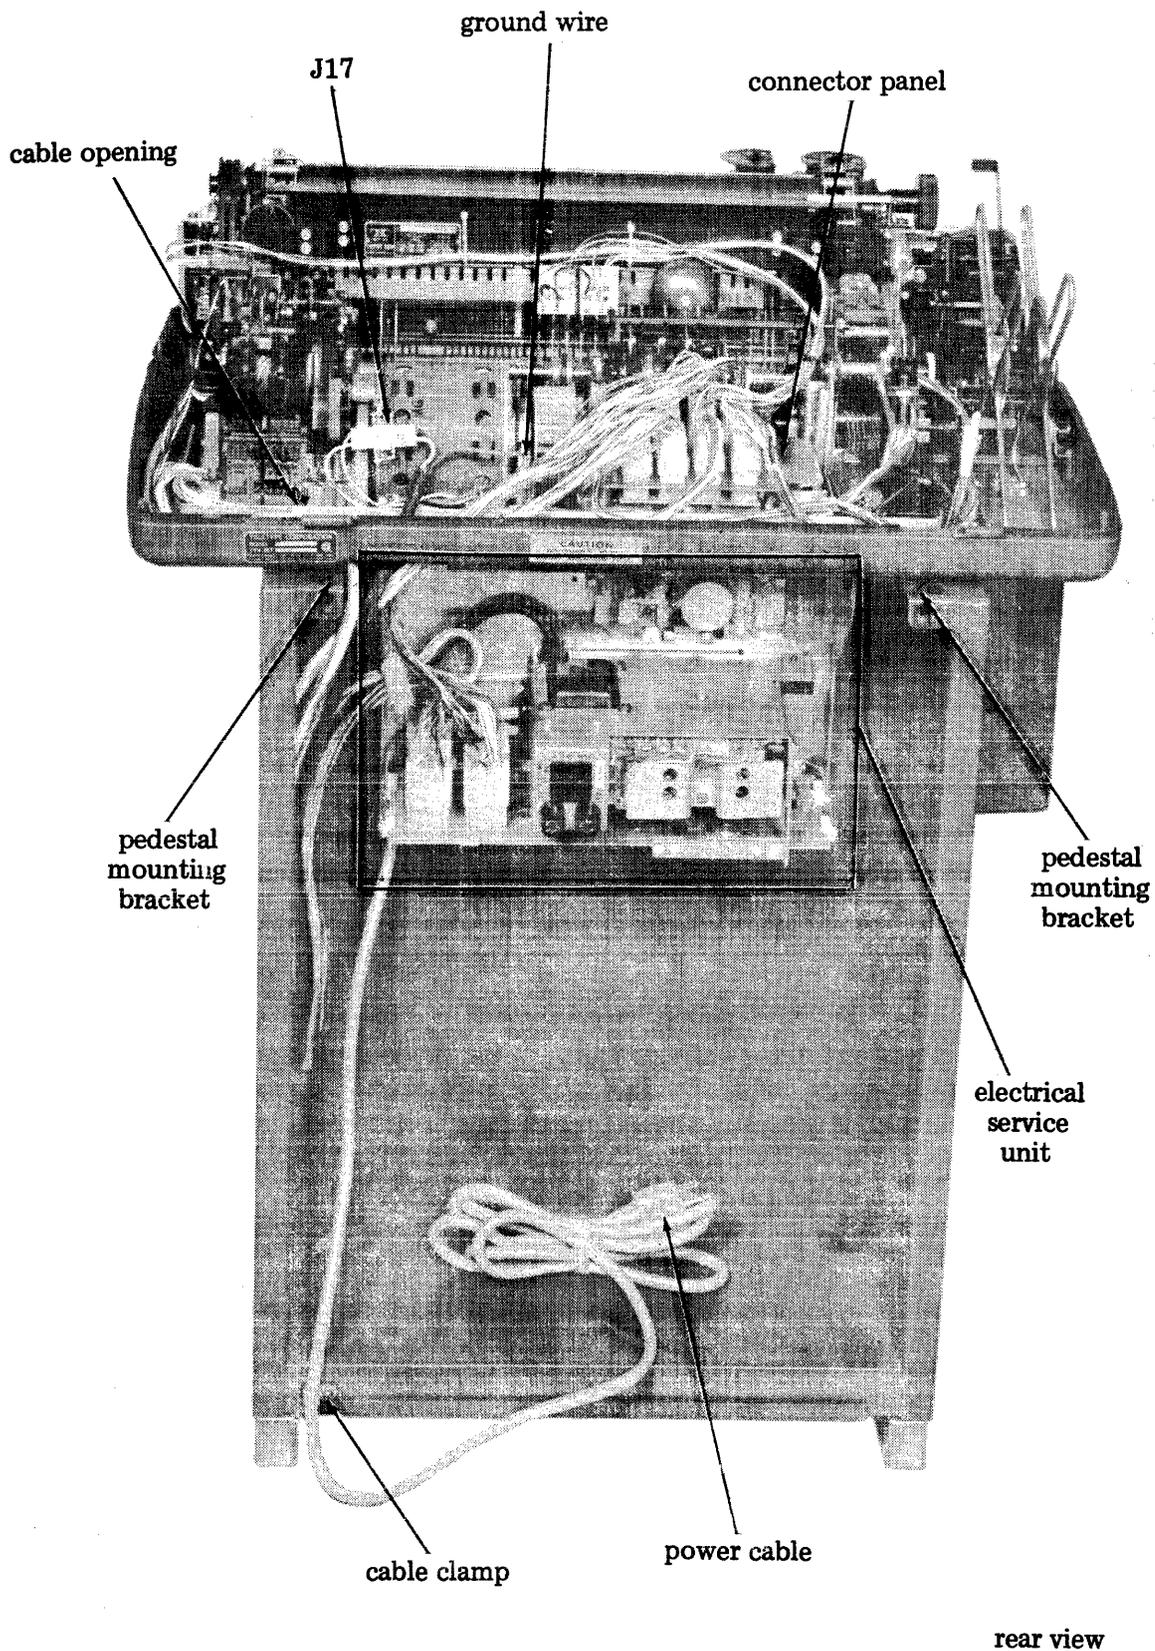

Figure 5 - Electrical Service Unit
2.09 Remove electrical service unit (ESU) (Figure 5) as follows: